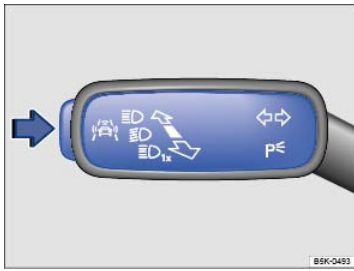

Fig. 18 On the turn signal and high beam lever: Driver assistance systems button.
- Press the button ⇒ Fig. 18 (arrow) to open the **Assist systems** menu.